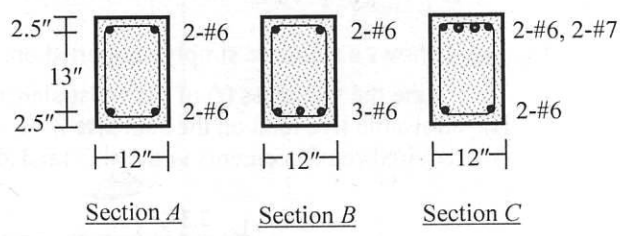

Fig. 2
6. Design and detail a singly reinforced beam section at mid-span with a simple span of 30' to support a dead load of 1.00 k/ft (excluding self weight) and a live load of 2.0 k/ft (see Figure 2). Width of the beam = 12 inch (architectural requirement). Use ACI/USD method.
- (i) as shown in Section *C* of Fig. 2, (ii) by only the tension bars in Section *C* of Fig. 2.
- (i) calculate the total load (w_u) for Section *B* (Fig. 2) to reach its ultimate moment capacity, and
7. Fig. 2 shows cross-sections *A*, *B* and *C* of beam *ABC* (made of normal-weight concrete and uncoated bars) supported by 12" square columns at *A* and *C*.
- (i) as shown in Section C of Fig. 2, (ii) by only the tension bars in Section C of Fig. 2.
- (i) calculate the total load (w_u) for Section B (Fig. 2) to reach its ultimate moment capacity, and
7. Fig. 2 shows cross-sections A , B and C of beam ABC (made of normal-weight concrete and uncoated bars) supported by 14" square columns at A and C .